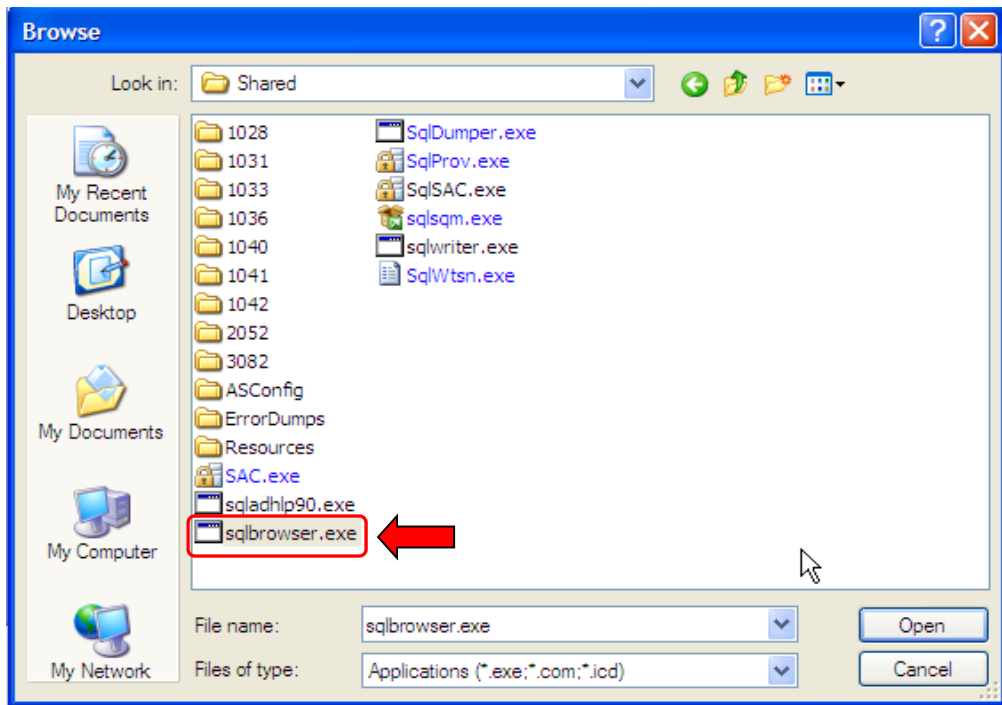

Figure III-15. sqlbrowser.exe File
- g. Select the **sqlbrowser.exe** file and click **Open** (Figure III-15) to return to the Add a Program window.